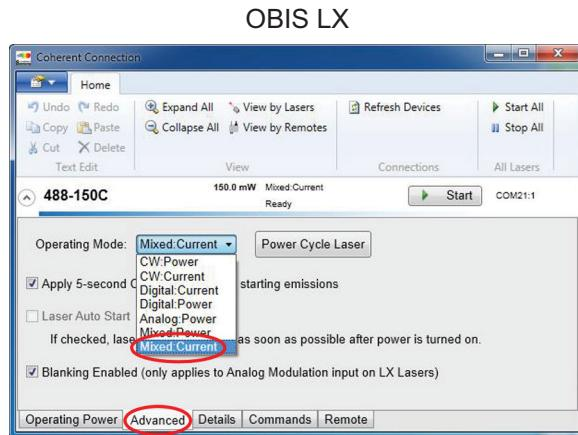

Figure 6-25. Select Mixed Modulation Mode
3. For high-speed modulation, the OBIS LX offers Mixed:Current mode to drive the laser in an open-loop control (see Figure 6-25).